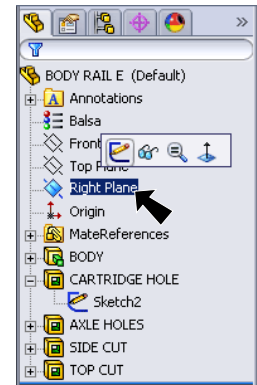

Fig. 31
Step 3. Click **Right Plane**  in the Feature Manager and click **Sketch**  from the Content toolbar, **Fig. 31**.